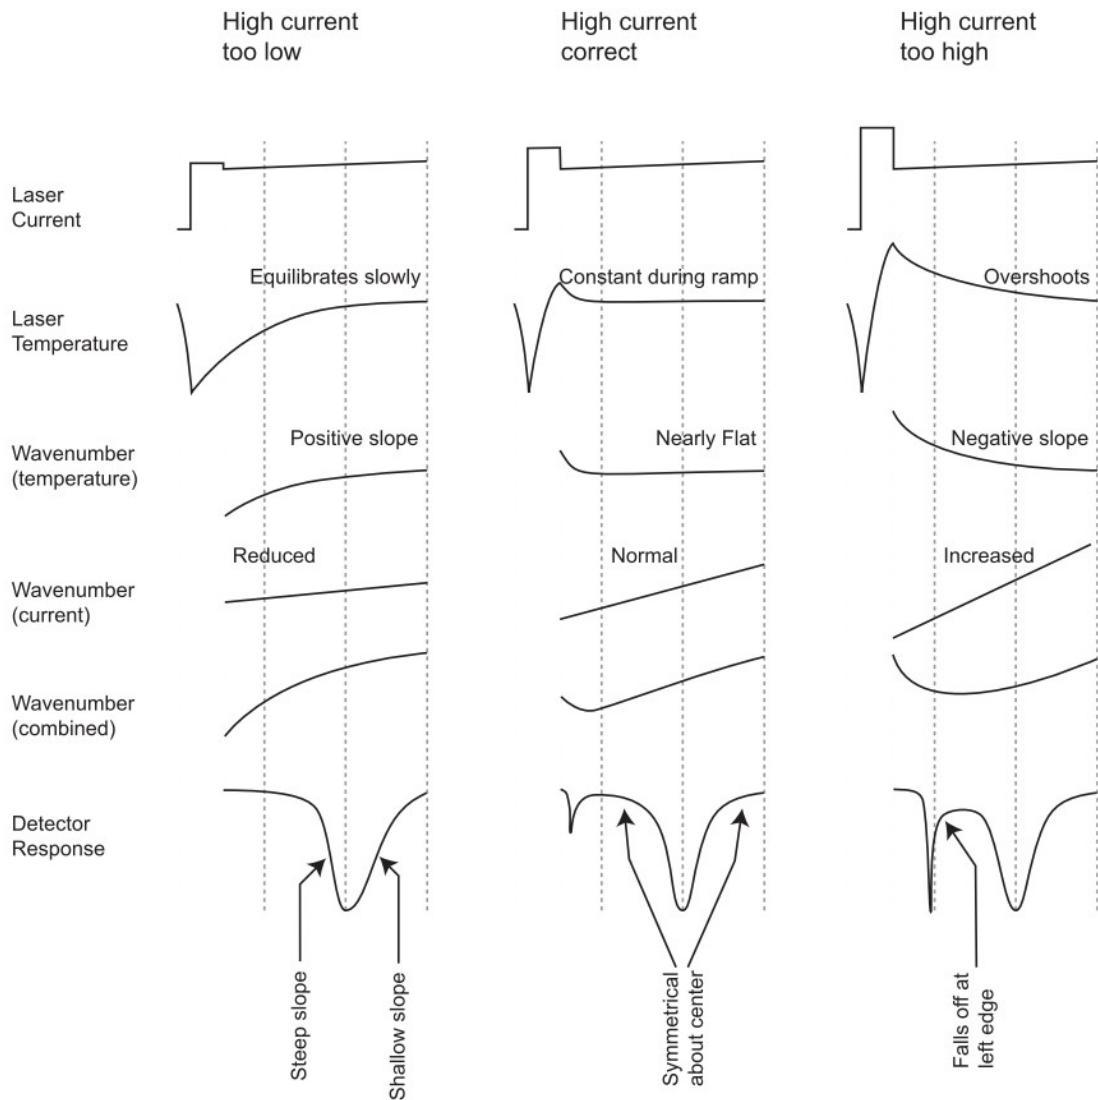
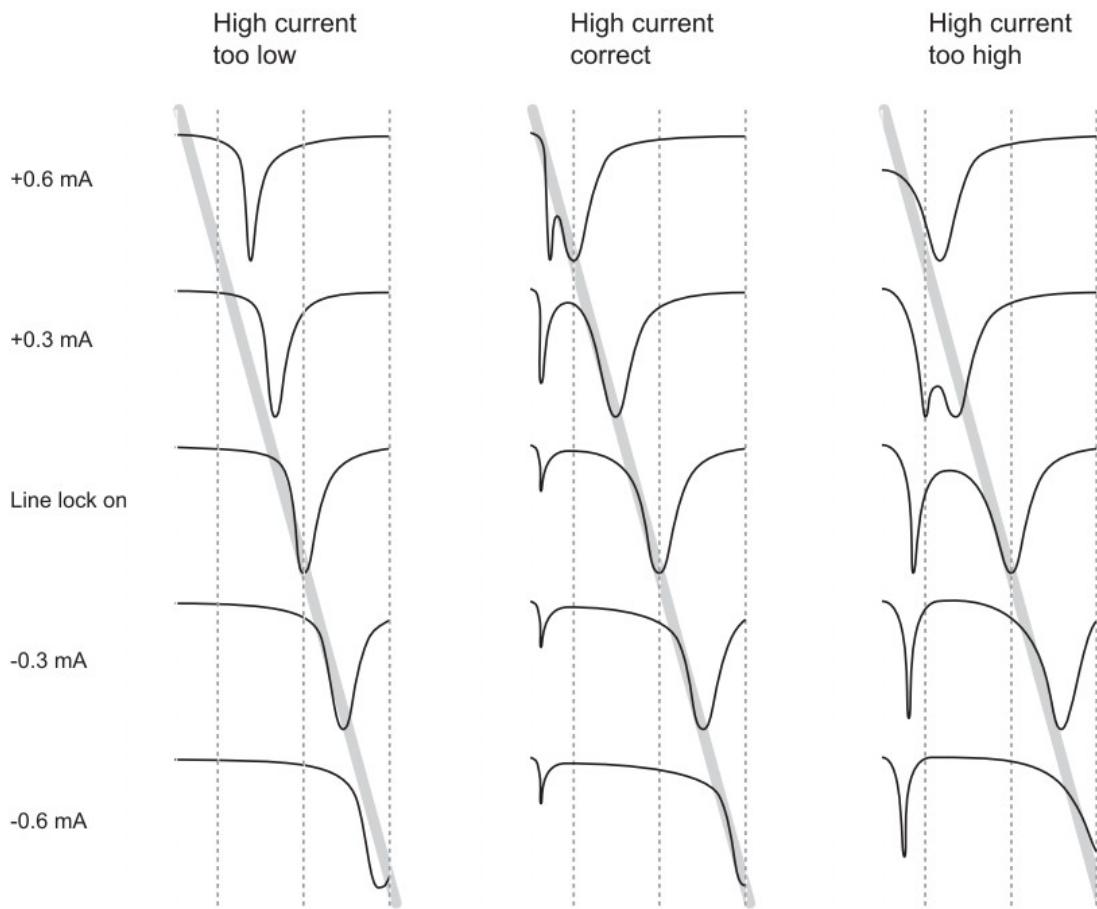

FIGURE C-6. Effects of temperature perturbation
FIGURE C-7. High current adjustment procedure
The laser cools slightly at the start of the spectral scan when it is turned off by reducing its current to the zero-current value, as discussed in Section 4.2.5, Laser Scan Sequence (*p.* 27). If the actual spectral scan started immediately thereafter, the laser temperature would rise during the entire spectral scan. The rise in temperature would be more rapid at first, but slow near the end of the scan as the temperature approached equilibrium. The change in temperature would change the laser's emission frequency, adding an undesired spectral modulation, as illustrated in the far left panel of FIGURE C-6. To minimize this problem, the laser current is increased above the DC current by an amount specified in the *High current offset* parameter. The duration of this high current pulse is determined by the laser *High current count* parameter. When these parameters are properly set, the heat from the increased current compensates for the heat lost when the current is reduced, stabilizing the laser temperature more quickly.
As shown in FIGURE C-6, improper high-current adjustment makes the absorption line appear asymmetrical. The goal of the high-current adjustment procedure is to make the absorption line symmetrical about its center.
A more objective method to evaluate this symmetry is to adjust the DC current to move the absorption line to the left and right of the center line. If the high current is adjusted properly, the absorption line will move the same distance left/right of center for the same change (\pm) in DC current. This is illustrated in FIGURE C-7. The left panel shows that with the high current too low, changing the DC current by $+ 0.6$ mA moves the absorption line only halfway to the left edge of the scan, but changing the DC current by $- 0.6$ mA moves it all the way to the right edge of the scan. In the center panel, the absorption line moves symmetrically, all the way to the left and right edge of the spectral scan for the same (\pm) change in DC current.
12. Evaluate the results and iterate as needed using the steps below and referring to FIGURE C-7:
- If the high current is too high, the laser's frequency will overshoot the absorption line at the beginning of the spectral scan, quickly scan backwards through the absorption line, and then scan forward through the absorption line. This is visible in the reference detector display as a second narrow absorption line at the left edge of the spectral scan data. See FIGURE C-6 and FIGURE C-7. This is acceptable as long as
this “ghost” line is in the omitted part of the scan. But if the signal falls off at the left edge of the scan as illustrated in the lower right of FIGURE C-6, the high current must be reduced (even if the “counting steps” criterion indicates the high current is already too low).
- When incrementing the DC current, it may not be possible to move the absorption line to the left edge because the two absorption lines (the true line and its “ghost”) may merge just inside the left vertical dotted line (see FIGURE C-7, top right). This also indicates the high current is too high.